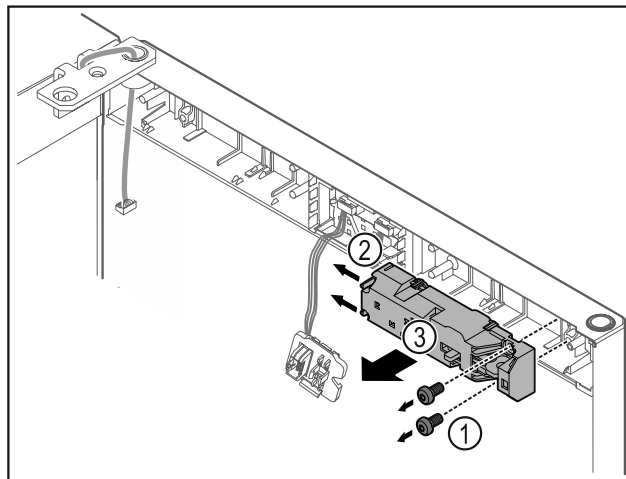

Fig. 20
- ▶ Remove the screws Fig. 20 (1).
- ▶ Press the latching lugs Fig. 20 (2) to the side and take off the remote lock Fig. 20 (3).